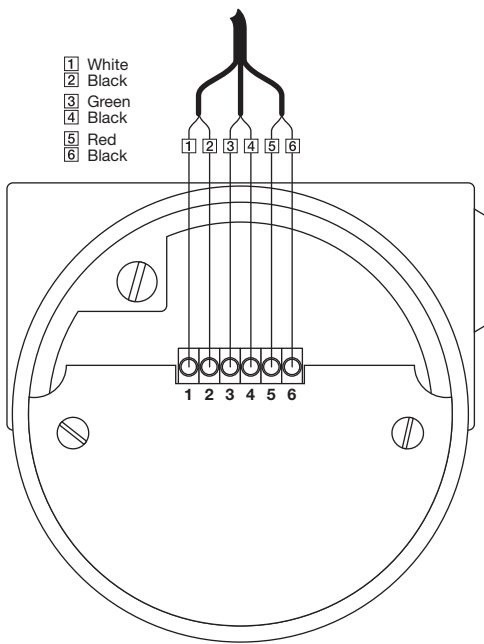

Figure 12
Wiring between the power supply and the E3 MODULELEVEL transmitter should be made using minimum of 18 AWG shielded twisted pair instrument cable. Wiring must be suitable for temperatures up to at least +85 °C. Within the transmitter enclosure, connections are made to the terminal strip and the ground connections. When installing a remote mount E3 transmitter, refer to Figures 12 & 13 for wiring connections.
3. Connect one end of the six conductor cable (P/N 037-3226-xxx or 037-3227-xxx) to the integral terminal block and the other end to the terminal block within the remote terminal board housing. Be sure to match the six discrete numbered wires with the numbers on each terminal block. See Figures 12 & 13.